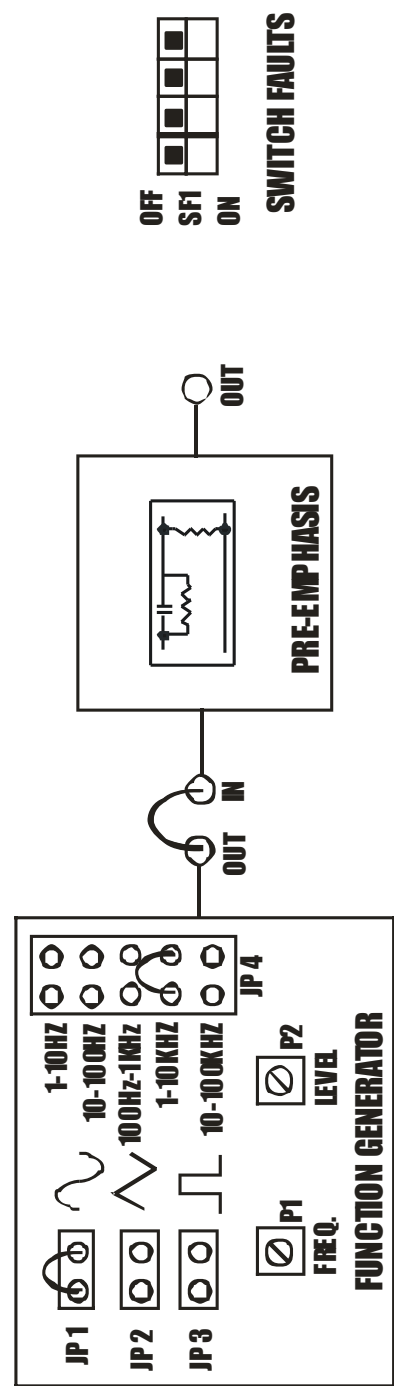

FIG.2.1 BLOCK DIAGRAM FOR STUDY OF PRE-EMPHASIS
- Make the connections as shown in the block diagram Fig.2.1.